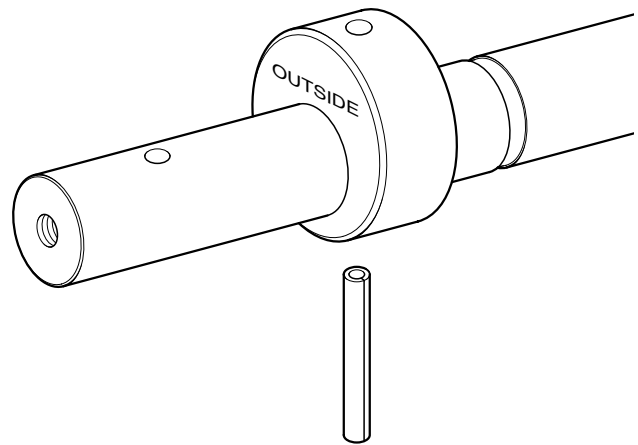

Figure 43 — Proper orientation of eccentric and insertion of spring pin.
6. **Fasten eccentric to shaft** with spring pin. The side marked “OUTSIDE” should face short end of shaft (Figure 43). Drive spring pin thru narrow side of eccentric until slightly recessed.